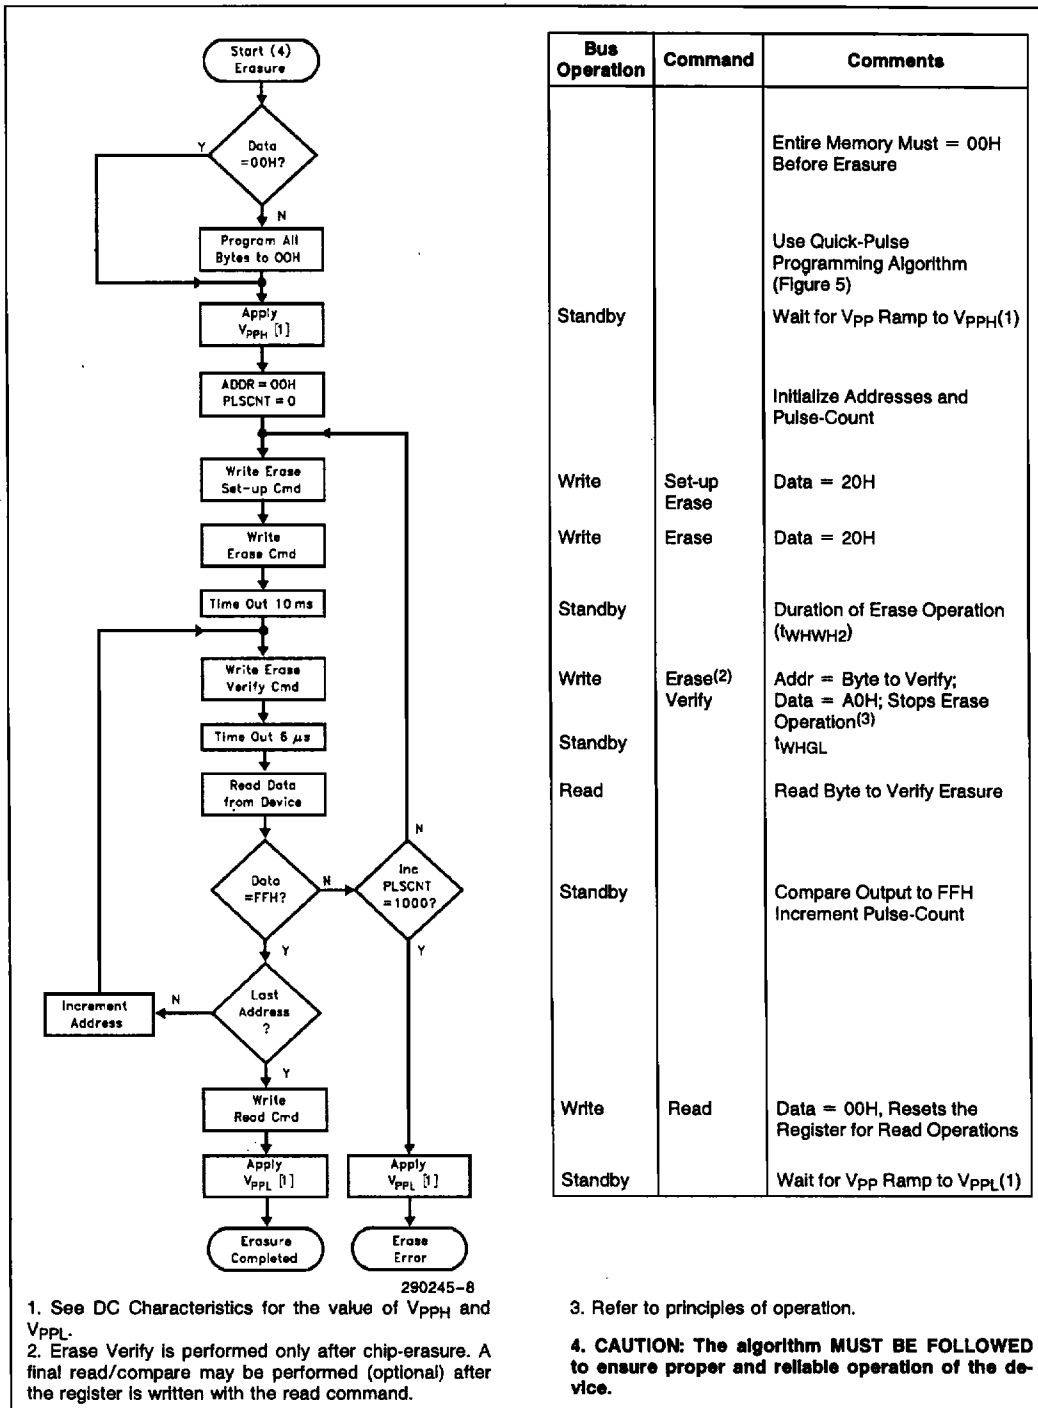

Figure 5. 28F020 Quick-Erase Algorithm
5. Figure 5 illustrates the Quick-Erase Algorithm.
In the case where the data read is not FFH, another erase operation is performed. (Refer to Set-up Erase/Erase). Verification then resumes from the address of the last-verified byte. Once all bytes in the array have been verified, the erase step is complete. The device can be programmed. At this point, the verify operation is terminated by writing a valid command (e.g. Program Set-up) to the command register. Figure 5, the Quick-Erase algorithm, illustrates how commands and bus operations are combined to perform electrical erasure of the 28F020. Refer to AC Erase Characteristics and Waveforms for specific timing parameters.
Erase execution then continues with an initial erase operation. Erase verification (data = FFH) begins at address 0000H and continues through the array to the last address, or until data other than FFH is encountered. With each erase operation, an increasing number of bytes verify to the erased state. Erase efficiency may be improved by storing the address of the last byte verified in a register. Following the next erase operation, verification starts at that stored address location. Erasure typically occurs in two seconds. Figure 5 illustrates the Quick-Erase algorithm.